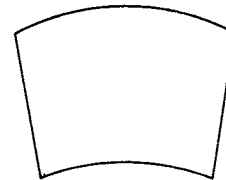

Fig. 4
- Step D - Cover the Yellow Signal Designation of the dial number plate using black vinyl tape trimmed as in Fig. 4 (or as required).